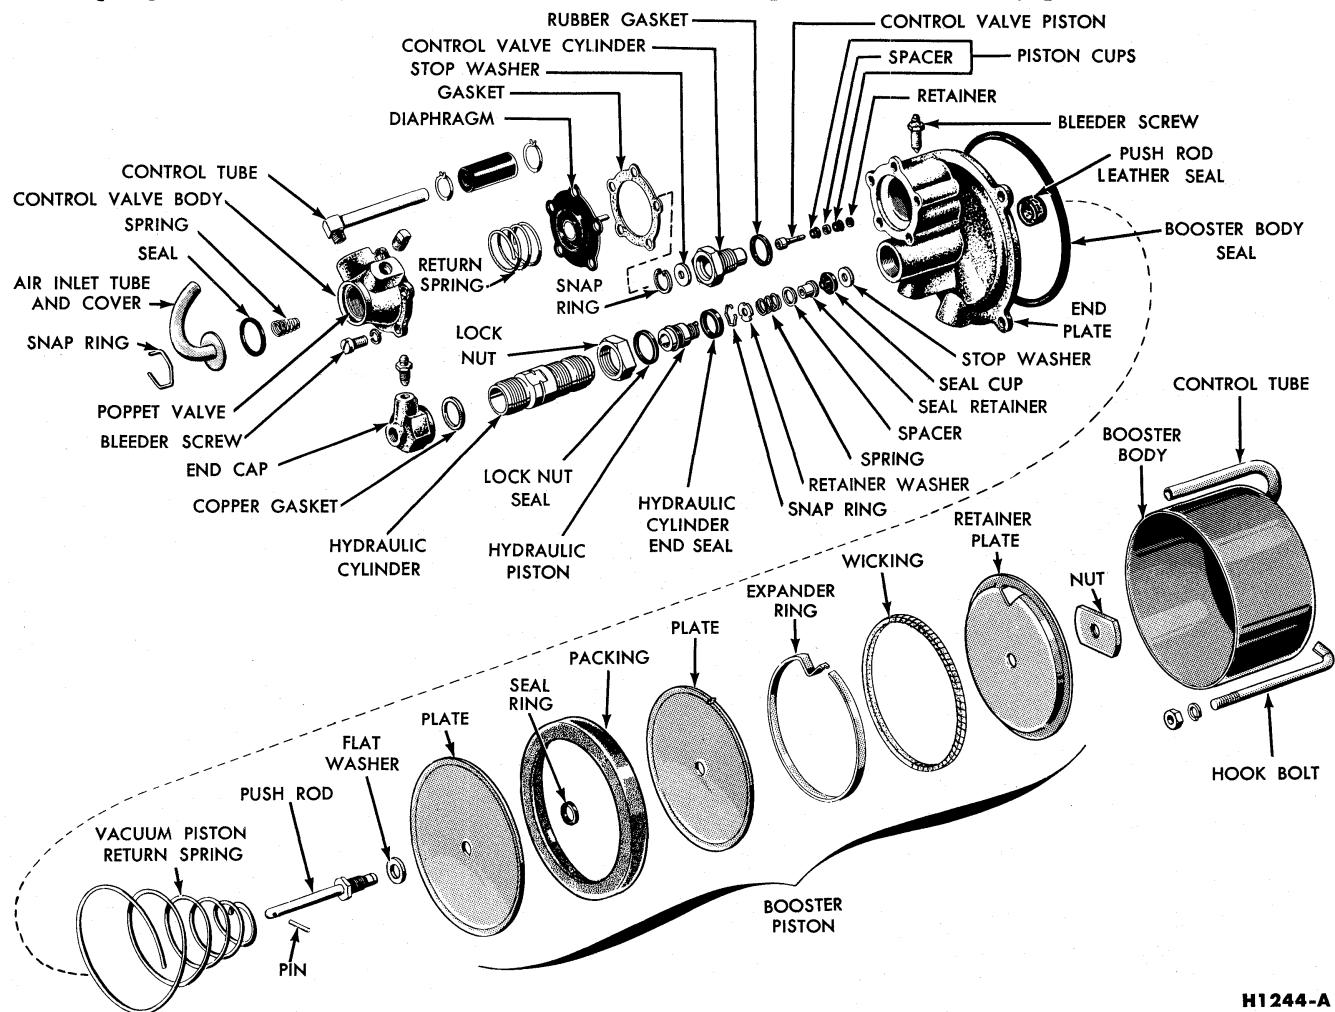
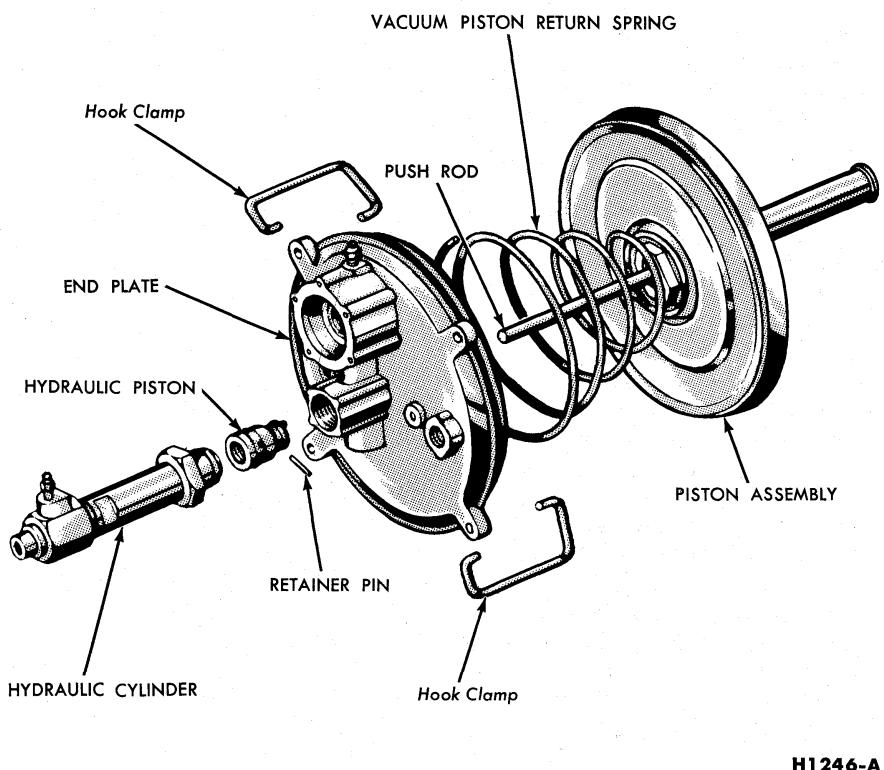

FIG. 30—Piston Type 6 $\frac{3}{4}$ -Inch Booster—Disassembled
FIG. 32—Vacuum Piston, End Plate, and Hydraulic Cylinder
1. Loosen the control tube hose clamps and slide the hose off the end of the tube (Figs. 30 and 31).
5. Unscrew the hydraulic cylinder from the end cap, then remove the lock nut and seal from the cylinder. Remove the bleeder screw and copper gasket from the end cap then remove the end cap from the vise (Figs. 30 and 31).
7. Compress the vacuum piston return spring by pressing down on the end plate and using hook-type clamps similar to those in Fig. 32. Hold the spring compressed.
then press the control valve piston assembly from the cylinder (Figs. 30 and 31). The piston should come out of the front end of the cylinder to avoid damage to the cups.
11. On a $6\frac{3}{4}$ -inch booster, remove the small retainer, then remove the piston cups and spacer from the control valve piston (Fig. 30).
12. Remove the hydraulic cylinder end seal from the end plate (Figs. 30 and 31). Remove the snap ring, then remove the push rod seal cup parts from the end plate ($6\frac{3}{4}$ -inch—retainer washer, spring spacer, seal retainer, seal cup and stop washer as shown in Fig. 30). ($9\frac{1}{2}$ -inch—washer, spring, retainer washer, seal cup, and stop washer as shown in Fig. 32.)
nut and disassemble the vacuum piston from the push rod (Fig. 30). Remove the flat washer.
6. To assemble the push rod seal cup parts (Figs. 30 and 31), insert the push rod through the leather seal at the rear side of the end plate. The rod will hold the parts in alignment as they are installed. Install the stop washer with the chamfered side toward the end plate, the seal cup with the lip of the cup away from the stop washer, the seal retainer with the flanged end next to the cup.
(i). Mount the vacuum piston and guide in a vise, at the hex portion of the guide. Place the vacuum piston return spring over the push rod with the small end of the spring next to the vacuum piston (Fig. 32).
12. Carefully guide the push rod through the leather seal of the end plate, compress the spring, and install the hook clamps to hold the spring compressed (Fig. 32).
20. Assemble a new rubber gasket in the groove of the end plate, and align the end plate with the booster body at the scribe marks. Install the hook bolts and tighten uniformly (Fig. 30).
Install the guide pins, position a new gasket and the diaphragm over the pins, then position the return spring in the recess of the diaphragm (Figs. 30 and 31).
25. Install the spring, the seal, and the air inlet tube and cover assembly to the control valve body and secure in place with the snap ring. (Figs. 30 and 31.)
26. Align the bleeder screw in the end cap with the bleeder screw in the end plate by manually turning the hydraulic cylinder in the end plate threads. While holding the hydraulic cylinder in this properly aligned position, securely tighten the cylinder lock nut (Figs. 30 and 31).